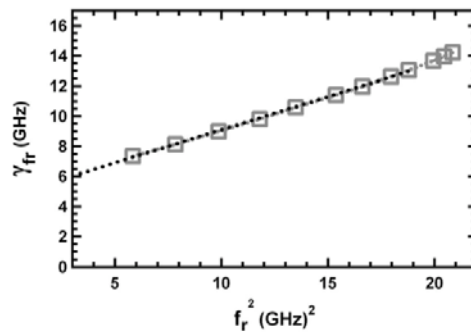

Figure 2
8) In **Figure 2** we consider two semiconductor diode laser Fabry-Pérot cavities.
3. Figure 2 shows the evolution of the damping rate γ_{fr} (squares) as a function of the squared RO frequency.